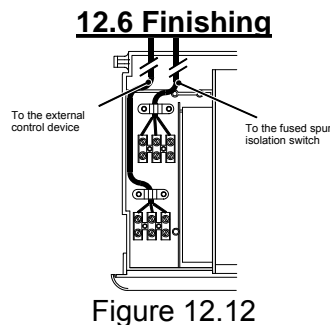

Figure 12.12
- Route the electrical supply cord and the external control cord as illustrated in Fig. 12.12.